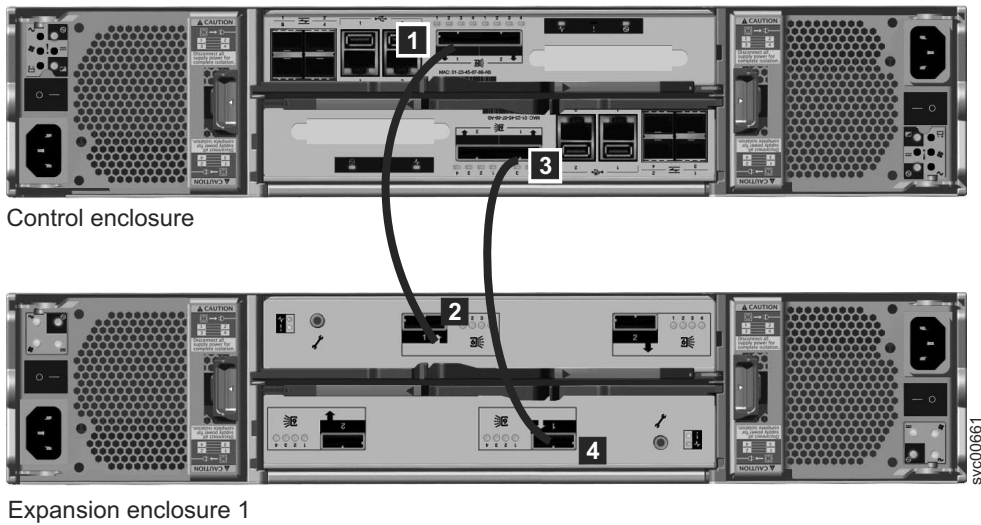

Figure 10. Attaching an expansion enclosure to the control enclosure
2. Attach the SAS cables from the control enclosure to the first expansion enclosure as shown in Figure 10 on page 14. Remove the protective end covers, if necessary. The first expansion enclosure is